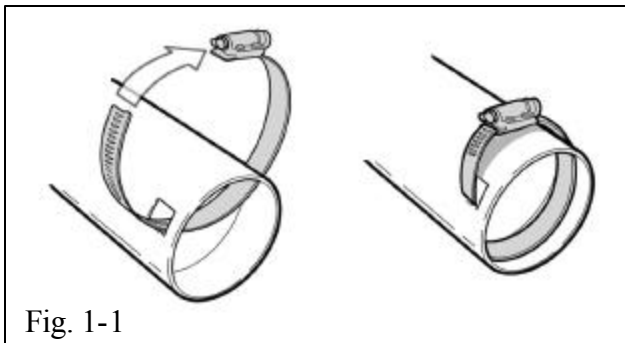

Fig. 1-1
- (b) Remove exhaust tip and clamp from the box and install the clamp onto the exhaust tip as shown. (Fig. 1-1)
- (1) Locate the bolt head of the clamp facing to the left (driver) side of the exhaust tip as shown. (Fig. 1-1 & 1-2)